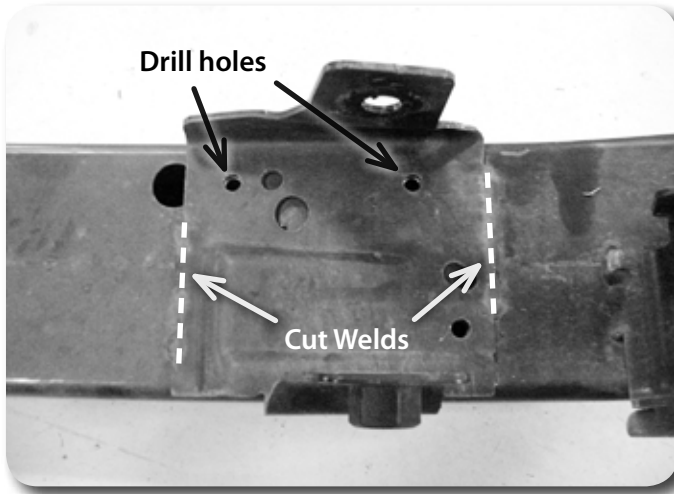

Figure 14
30. Drill two 5/16" holes in the front steel bumper at each factory mount as shown. These holes will be used to locate the mounts and also would allow for easy re-installation if you ever decide to put the vehicle back to stock Figure 14.